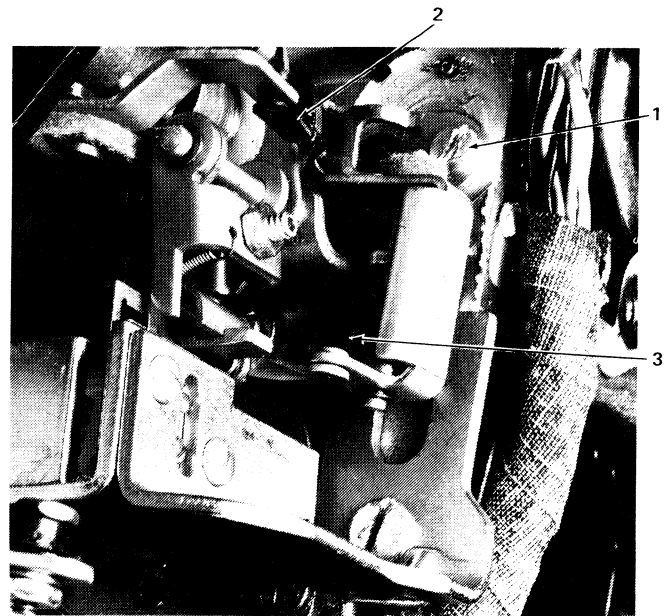

Figure 4-20. Selector Bail Removal (Left Side, Printer Tilted Up)
5. Remove the top screw from the velocity control mounting bracket (No. 1, Figure 4-20). Disconnect the velocity control link (No. 2, Figure 4-20) and rotate the magnet assembly toward the front.
6. Loosen the screw (No. 3, Figure 4-20), move the retainer out of the way, remove the two C-clips (one on each side of the negative-five bail), and pull the bail shaft out.